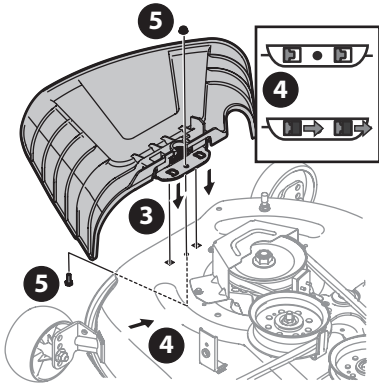

Figure 7
- Place the chute deflector on the deck, be sure to insert the tabs on the chute deflector into the holes on the deck (Figure 7).
- Slide the chute deflector toward the rear of the tractor until the bolt hole in the chute deflector aligns with the hole in the deck (Figure 7).
- Secure the chute deflector in place with the flange lock nut and hex screw removed in Step 2. Tighten to 102-124 in-lbs (12-14 N-m) (Figure 7). Skip ahead to Setting the Deck Wheels (if equipped).